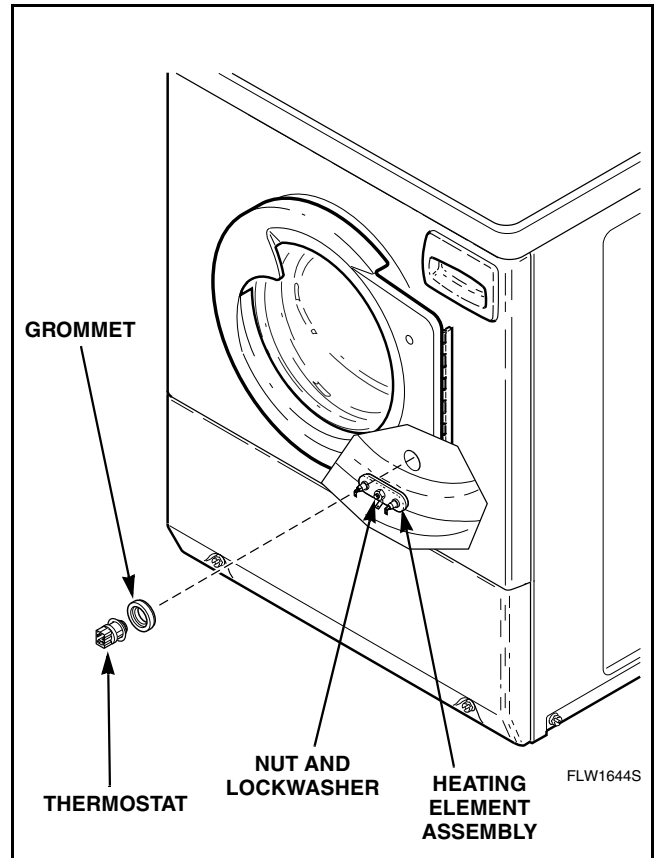

Figure 19
- Reach up behind front panel, grasp thermostat, and using a twisting motion, pull thermostat and rubber grommet out of mounting hole in outer tub front panel. Refer to *Figure 19*.
- Loosen nut and lockwasher from center terminal of heating element assembly. Refer to *Figure 19*.